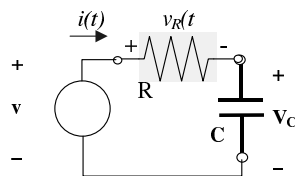
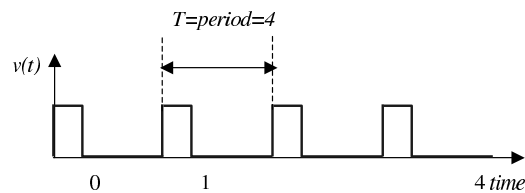

FIGURE 8. RC circuit
FIGURE 12. Pulse Width Modulated Signal
An RC circuit is a particularly simple network containing a capacitor. The RC circuit consists of an independent voltage source in series with a resistor, R , and a capacitor C . The schematic diagram for this circuit is shown in figure 8. Analyzing this circuit means determining the voltage over the capacitor, $v_c(t)$, (as a function of time). The exact solution, of course, depends on two things. These two things are the initial voltage over the capacitor, V_0 , and the input voltage, $v(t)$, generated by the independent source. In the remainder of this section we state two specific solutions known as the *natural response* and *step response*. The derivation of these particular response equations is done in the lecture component of the course.
4.8. What is the RC circuit's response to a PWM signal? In this section, we discuss the RC circuit's (figure 8) response to an input signal that is a pulse width modulated signal of known period and duty cycle. The pulse width modulated input signal is shown in figure 12. Over a single period, $[0, T]$, the input voltage to the circuit has two distinct parts. There is the "charging" part from $[0, T_1]$ during which the applied voltage is V . In this interval, the capacitor is being charged by the external voltage source. The second part is the "discharging" part from $[T_1, T]$. During this interval the applied voltage is zero and so the capacitor is discharging through its resistor.